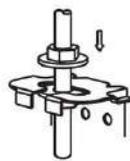

fig.7
- Locate the air conditioner firmly by wrenching the nuts after having adjusted the body's position well. (refer to fig.7)